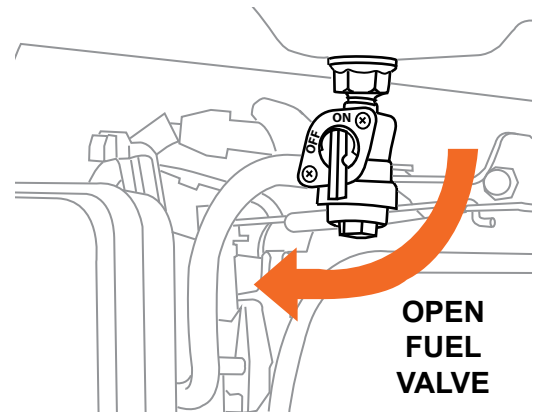

Figure 1
2. Turn the engine's fuel valve to the OPEN position (see Figure 1).